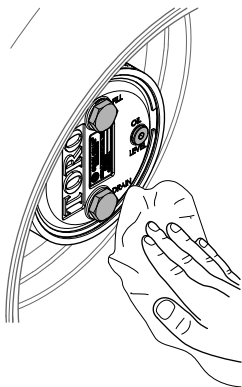

Figure 109
3. Wipe clean the planetary and brake housings (Figure 109).